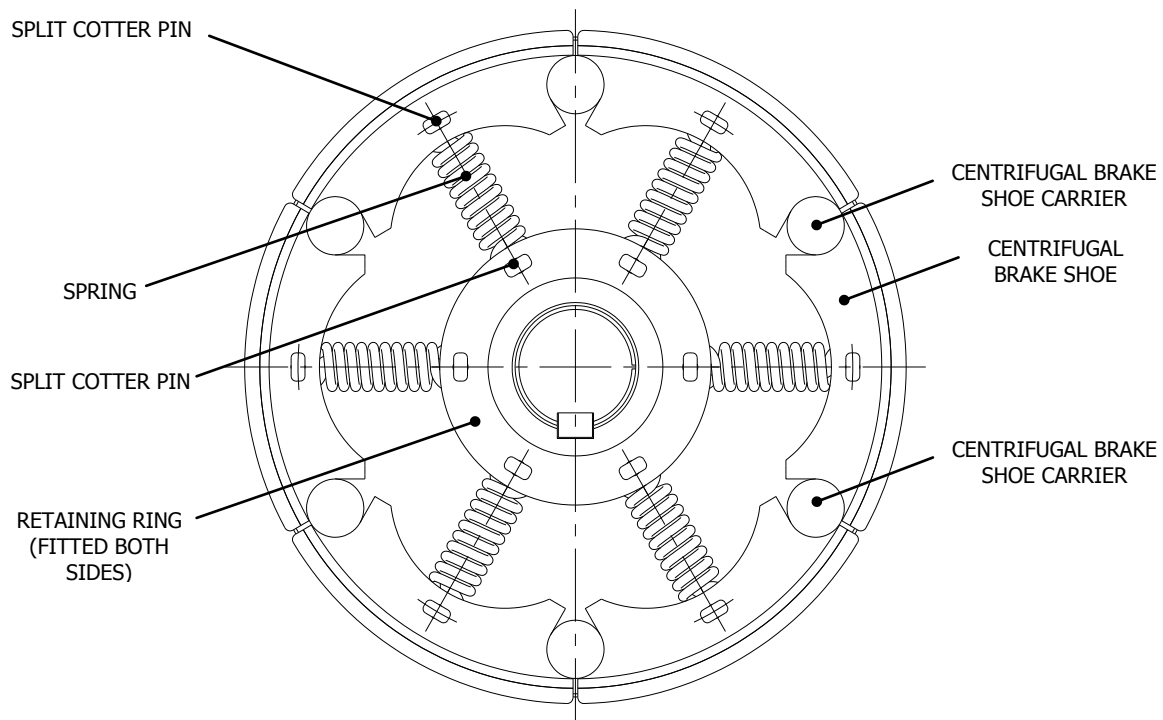

Figure 6.4: Centrifugal Brake Shoe Mounting
- Remove split cotter pins and springs that retain the shoes to the carrier. See figure 6.4: Centrifugal Brake Shoe Mounting.